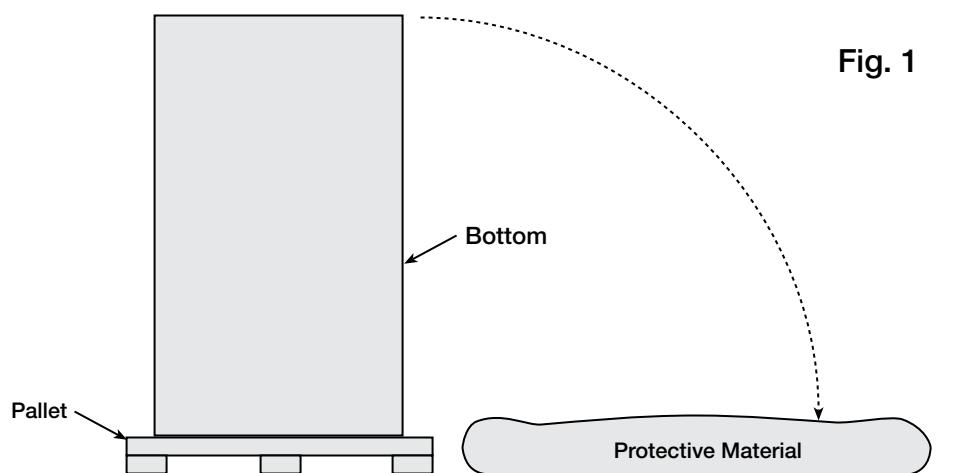
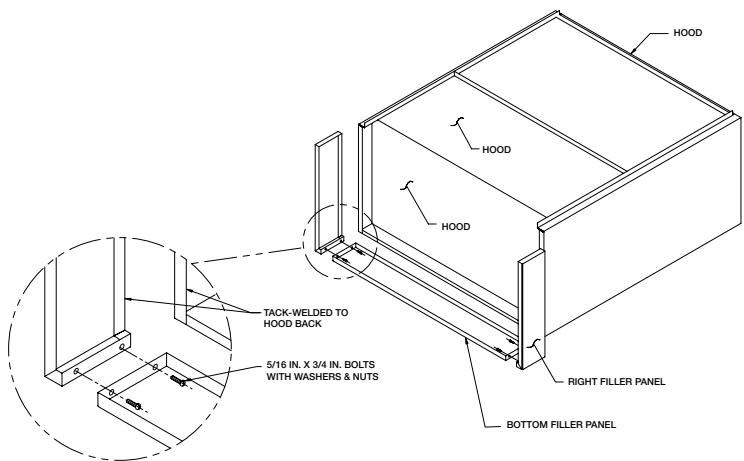

Fig. 1
Fig. 2
the crate to avoid damaging the hood as it is tipped on its side; Fig. 1. Tip the hood carefully onto the protective material. If you have filler panels, install them now; Fig. 2. If you have integral filler panels, no additional installation is needed.
1. Uncrate the hood and lay it on the floor with protective material between the hood and the floor. (Fig. 1)
3. Position the filler panels to the hood back, and tack-weld them into place. (Fig. 2)